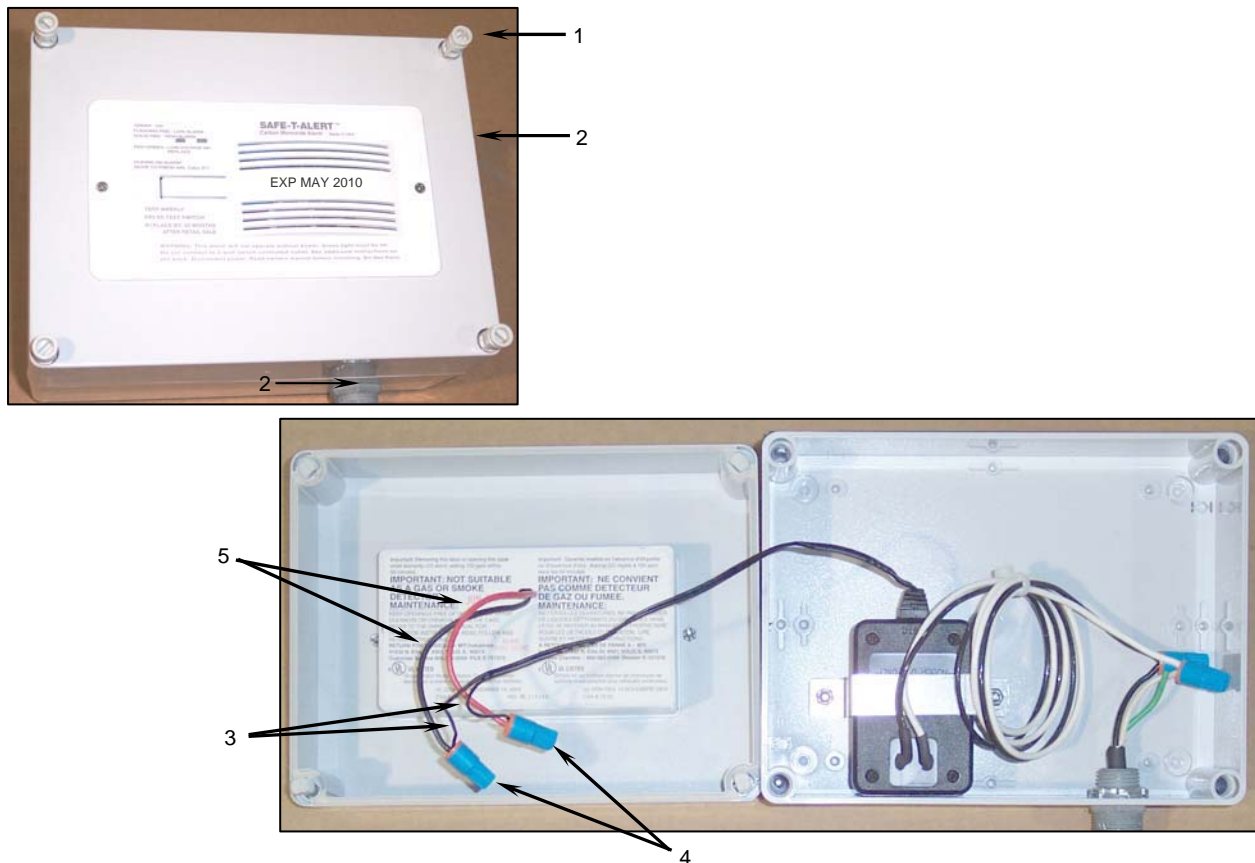
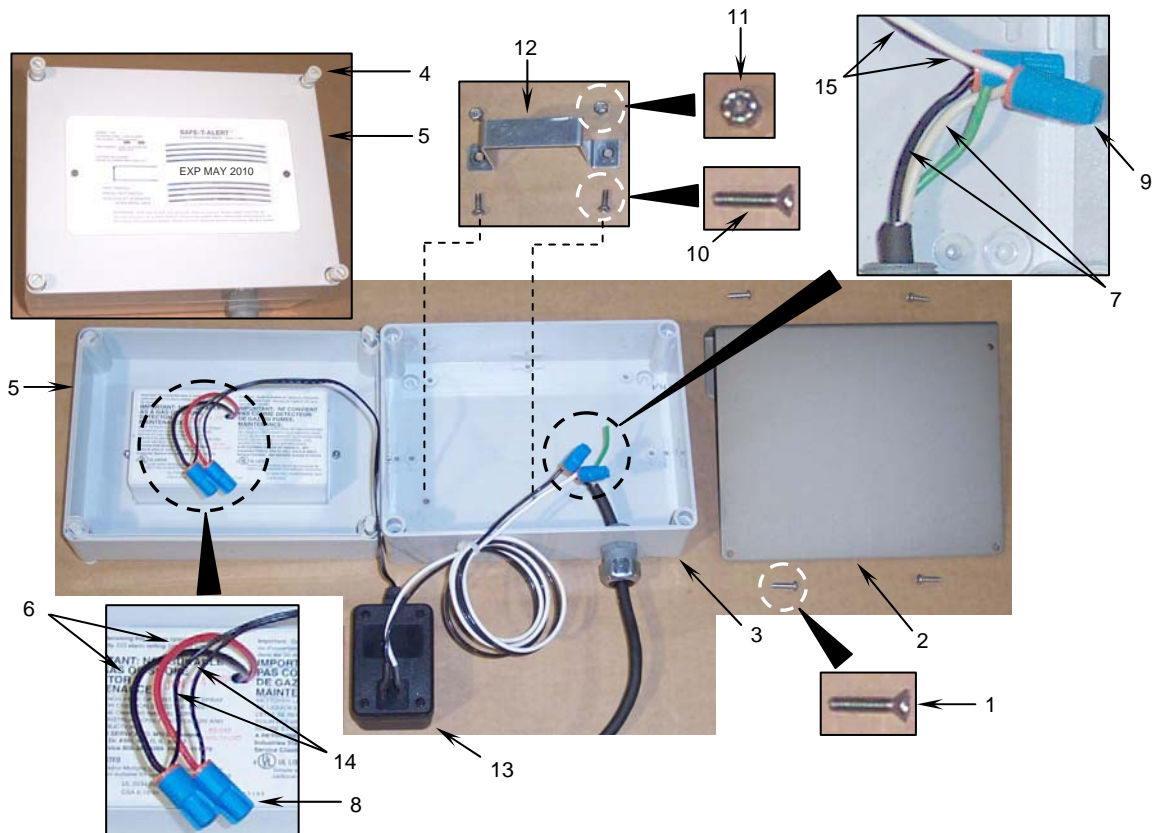

Figure 1. Testing the CO Monitor Power Supply.
Figure 3. Replacing the CO Monitor Power Supply.
- a. Loosen the four captive screws (**Figure 1, Item 1**) at the front corners of the CO monitor and separate the front cover (**Figure 1, Item 2**) from the enclosure.
- b. Tag the two power supply DC wires (**Figure 1, Item 3**) as positive and negative.
- c. Remove and discard the two wire nuts (**Figure 1, Item 4**) and separate the wires.
- c. Place the multimeter test probes on the two power supply DC wires (**Figure 1, Item 3**). The multimeter should read 12 VDC.
- b. Twist the CO detector positive (red) and negative (black) wires (**Figure 1, Item 5**) of the to the tagged power supply DC wires (**Figure 1, Item 3**) and secure using two new watertight wire nuts (**Figure 1, Item 4**).
- c. Place the cover (**Figure 1, Item 2**) onto the enclosure and secure with the four captive screws (**Figure 1, Item 1**).
- a. Remove 4 screws (**Figure 3, Item 1**) holding hanging bracket (**Figure 3, Item 2**) to back of CO monitor (**Figure 3, Item 3**) and remove bracket.
- b. Loosen the four captive screws (**Figure 3, Item 4**) at the front corners of the CO monitor and separate the front cover (**Figure 1, Item 5**) from the enclosure.
- c. Tag the two CO detector wires (**Figure 3, Item 6**) as positive (red wire) and negative (black wire).
- d. Tag the two power cable wires (**Figure 3, Item 7**).
- e. Remove and discard the four wire nuts (**Figure 3, Item 8**) and (**Figure 3, Item 9**) and separate the wires.
- f. Remove the two machine screws (**Figure 3, Item 10**), the two self-locking hex nuts (**Figure 3, Item 11**), and the power supply bracket (**Figure 3, Item 12**) that secure the CO power supply (**Figure 3, Item 13**) to the enclosure (**Figure 3, Item 3**).
- a. Secure the new power supply (**Figure 3, Item 13**) inside the enclosure (**Figure 3, Item 3**) using the power supply bracket (**Figure 3, Item 12**), the two machine screws (**Figure 3, Item 10**), and the two self-locking hex nuts (**Figure 3, Item 11**).
- b. Twist the red CO detector wire (**Figure 3, Item 6**) and the black/gray wire (**Figure 3, Item 14**) of the new power supply together. Twist the black CO detector wire (**Figure 3, Item 6**) and the black wire (**Figure 3, Item 14**) of the new power supply together. Secure the two pair of wires using two new, watertight wire nuts (**Figure 3, Item 8**).
- c. Twist the two power cable wires (**Figure 3, Item 7**) and the two power supply wires (**Figure 3, Item 15**) together, white to white and black to black. Secure using two new, watertight wire nuts (**Figure 3, Item 9**).
- d. Place the enclosure cover (**Figure 3, Item 5**) onto the enclosure and secure with the four captive screws (**Figure 3, Item 4**).
- e. Secure the hanging bracket (**Figure 3, Item 2**) to the back of the enclosure using the four screws (**Figure 3, Item 1**).